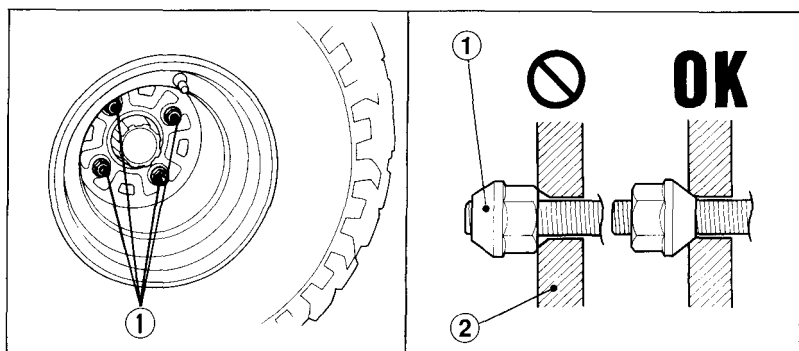

Fig. 4-33
2. Loosen the wheel nuts (Fig. 4-33) with a 17 mm socket wrench.